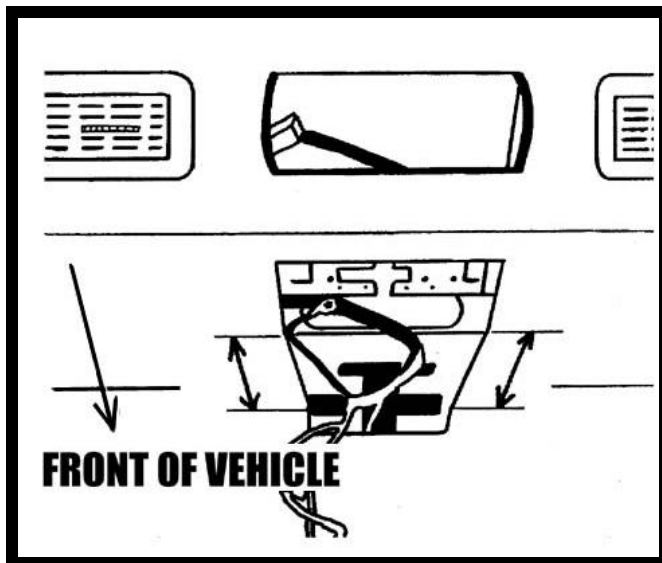

FIGURE 6
5. Cut the headliner material between dome light opening and the front openings for OEM pod retainer arms. **Caution: Before cutting material, check for wiring or other componentry above headliner. Cut only where indicated.** See Figure 6.